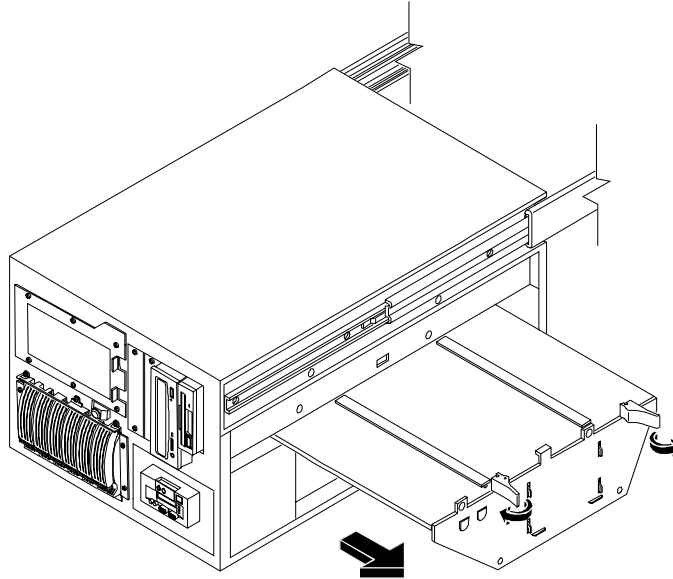

Figure 5-5. Removing System Board from LH 4r
3. Remove the four screws holding the System board assembly secure on top. Remove the system board assembly by raising the retaining latches to disengage it from the socket, then pull it out until it clears the chassis guides (see Figure 5-5). Set the system board assembly down on a work surface, metal plate side down.